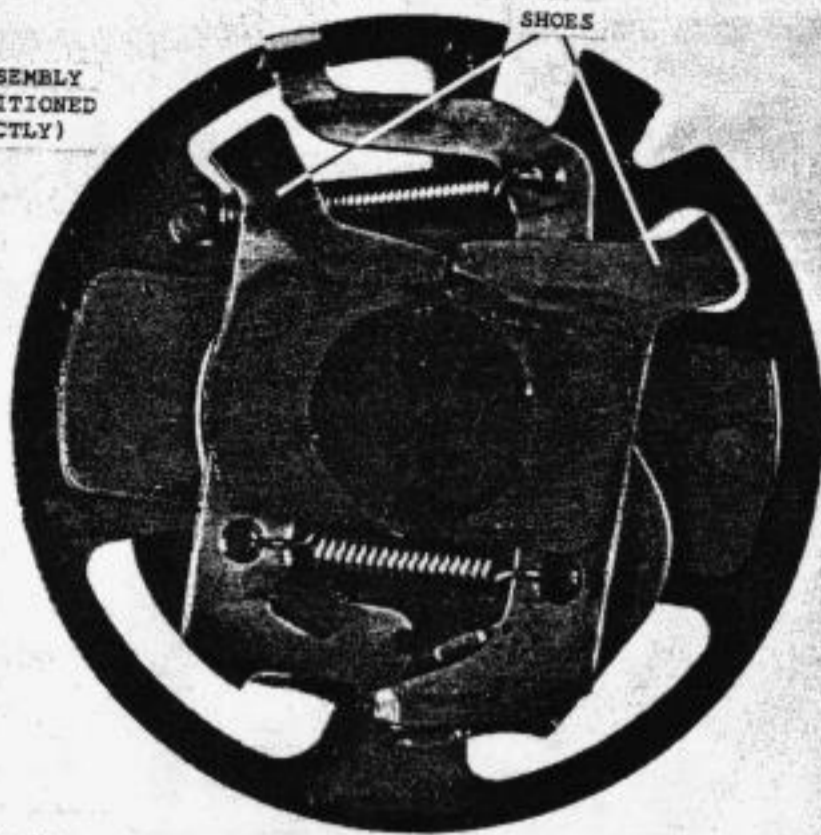

Fig. 32-77
1. Be sure to pinch the latchlever and the stoplug together (Fig. 32-72) to let the mainshaft through the clutch assembly. The clutch assembly is a delicate thing and if the drum is separated from the clutch, the shoes may separate and get out of alignment. Refer to Fig. 32-77. Proper shoe positions are found in Fig. 32-78. Incorrectly placed shoes will not allow mainshaft to pass through the clutch assembly.